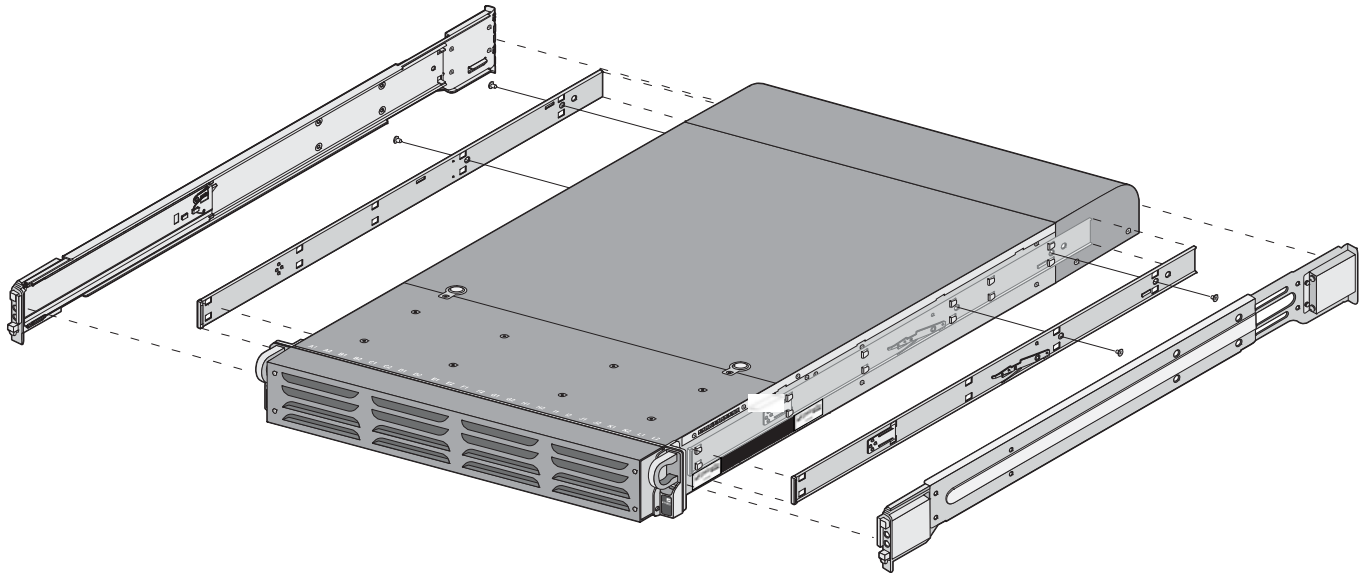
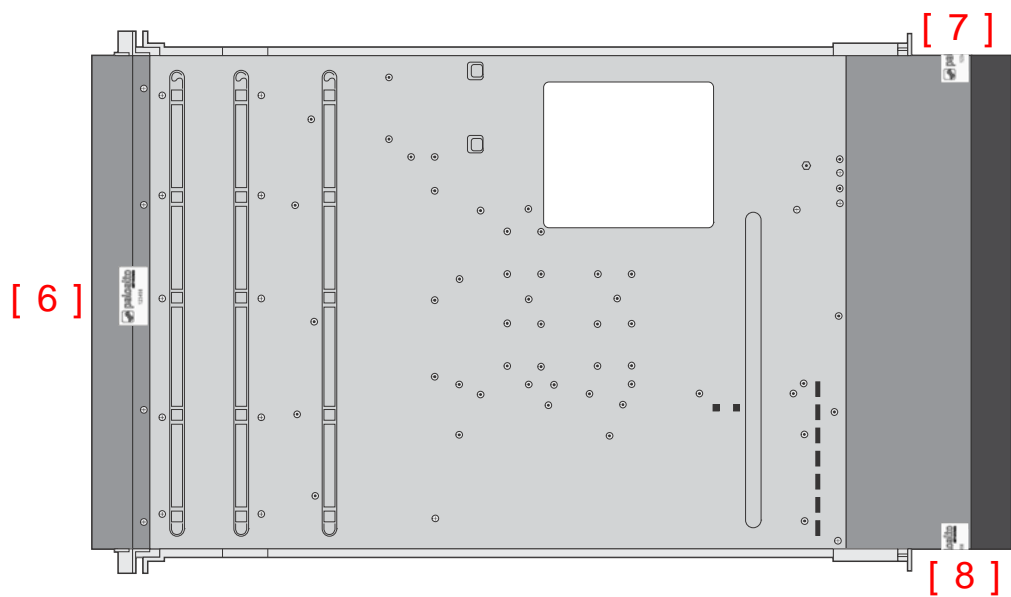

Figure 47 – M-500: Install Rail Kit
Figure 48 – M-500: Apply Tamper Seals on the Bottom of the Appliance
Re-attach the rail kit to the appliance as shown in Figure 47 and then add three (3) tamper seals to the bottom of the appliance as shown in Figure 48. One (1) tamper seal prevents tampering of the front opacity shield connected to the bottom of the appliance and two (2) tamper seals wrap around the upper and lower rear opacity shields to prevent tampering of the rear opacity shields.